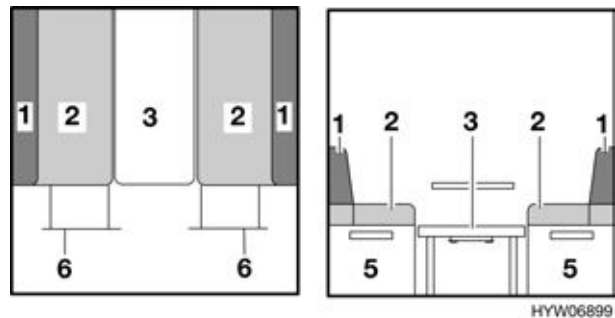

Fig. 79 During conversion
- Pull out the bedding box extension (Fig. 79,6).
▷ Depending on the model an enclosed additional cushion must be used instead of the back cushion (Fig. 79,1).